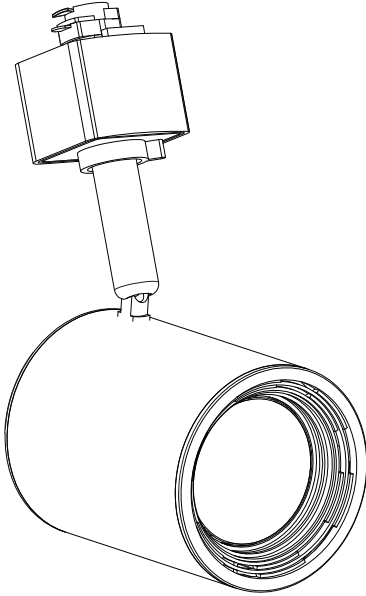
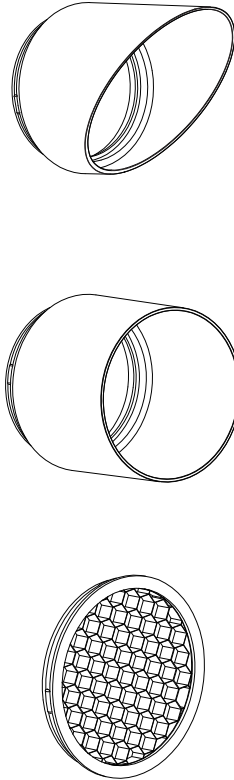

fig. 1
fig. 2
2. Attach the mounting bracket to the J-box using two of the provided screws. (fig. 1)
3. Attach the safety clip to one of the holes in the mounting bracket. (fig. 2)
1. Locate the accessory locking channel in the fixture holder ring (fig. 1). Locate the retainer clips on the edge of the accessory (fig. 2). Simply insert the edge of the accessory into the locking channel of the holder until it clicks and is securely fasten.